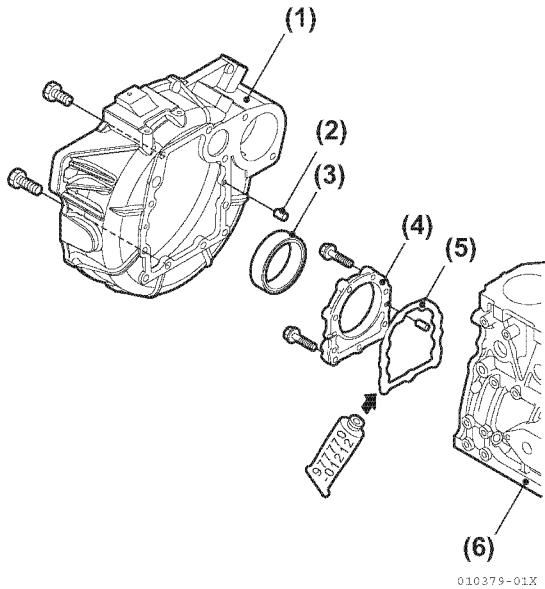

Figure 5-133
8. Install a new oil seal. Press the oil seal in the oil seal case. Coat the lip of the oil seal with engine oil (**Figure 5-133**).
9. Apply liquid gasket to the mounting surface of the oil seal case. Mount the oil seal case to the cylinder block, while matching up the cylinder block positioning pins (**Figure 5-133**).
10. Mount the flywheel housing to the cylinder block, while matching up with the cylinder block positioning pins (**Figure 5-133**).